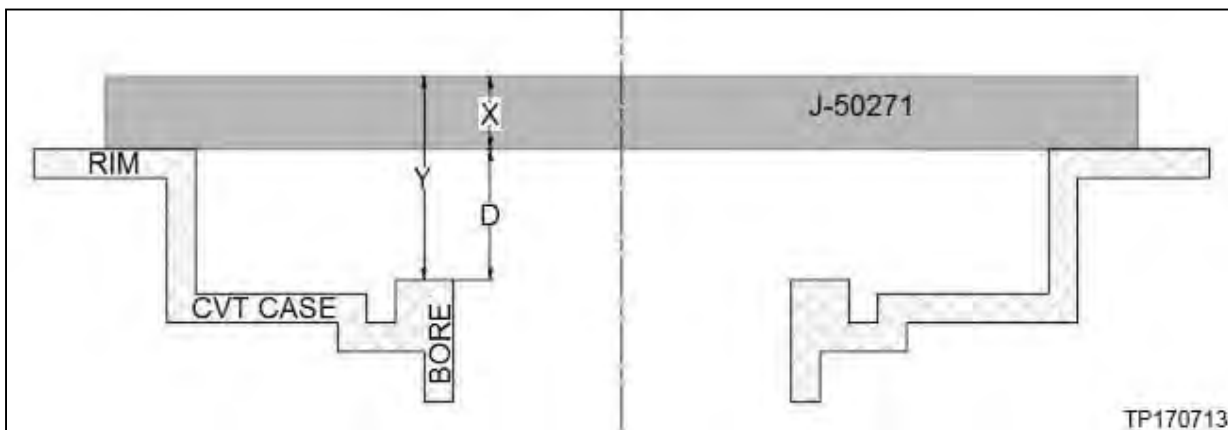

Figure 133
**HINT:** If Gauge Block J-50271 is not used, the thickness of the substitute gauge block will need to be measured. The thickness of the gauge block is shown as "X" in Figure 133 on page 64.
105. Measure the average distance (Y) shown in Figure 133 as follows:
- Refer to Figure 131, Figure 132 and Figure 133, then proceed to page 65.